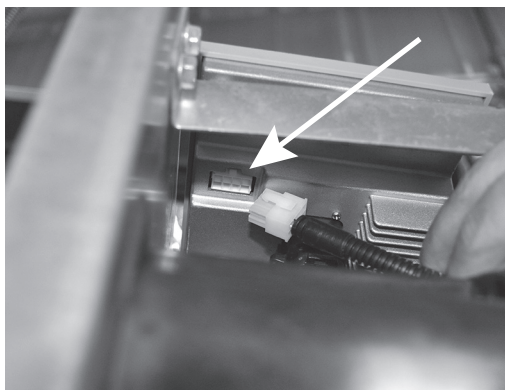

Figure 3-15. Harness Installed to Controller
19. For Nexus or Sync controllers, locate the port on the underside of the controller. It may be covered with a decal. If so, remove the decal and install the harness. Figure 3-15.